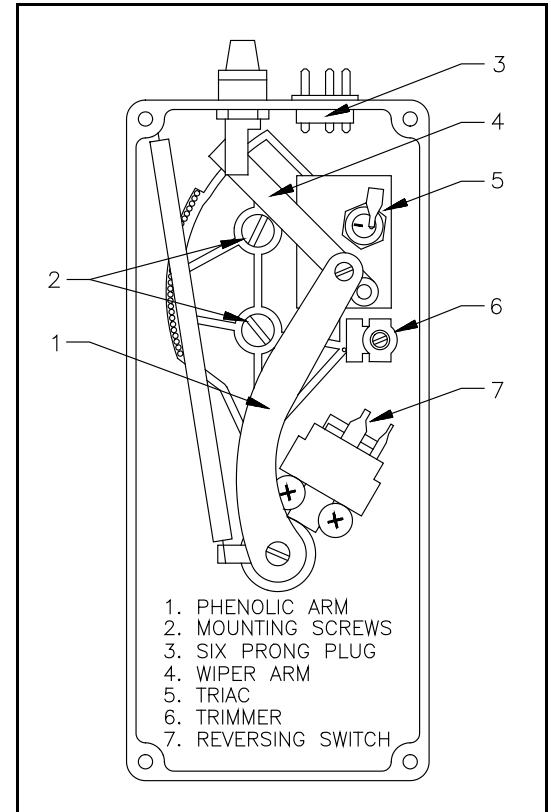

Figure 1. Components
- 3.5 Remove the flat head and the round head screws that hold the curved phenolic arm (7). See Figure 1. Remove the phenolic arm.
- 4.5 Fasten the circuit board into position with the two mounting screws. See 2 in Figure 1. The exact position of the circuit board will be adjusted later.
- 4.9 Push the pedal sideways and depress it so the control is in reverse. Depress the pedal to its full extent and check if the wiper arm (4 in Figure 1.) is riding on the copper bar. Let the pedal return to a non depressed position but still in reverse. Check that the wiper arm is past the last brass contact pin. If not, reposition the circuit board by loosening the mounting screws and moving it. Tighten the mounting screws and check again. The wiper arm should rest on the copper bar when the pedal is depressed and should be past the last brass contact pin when the pedal is released.
- 4.12 After confirming the circuits are correct, apply some lubricant supplied with the kit to the wiper arm contact pins (1). See Figure 1. Also, apply lubricant to the forward/reverse locating pin under the pedal.